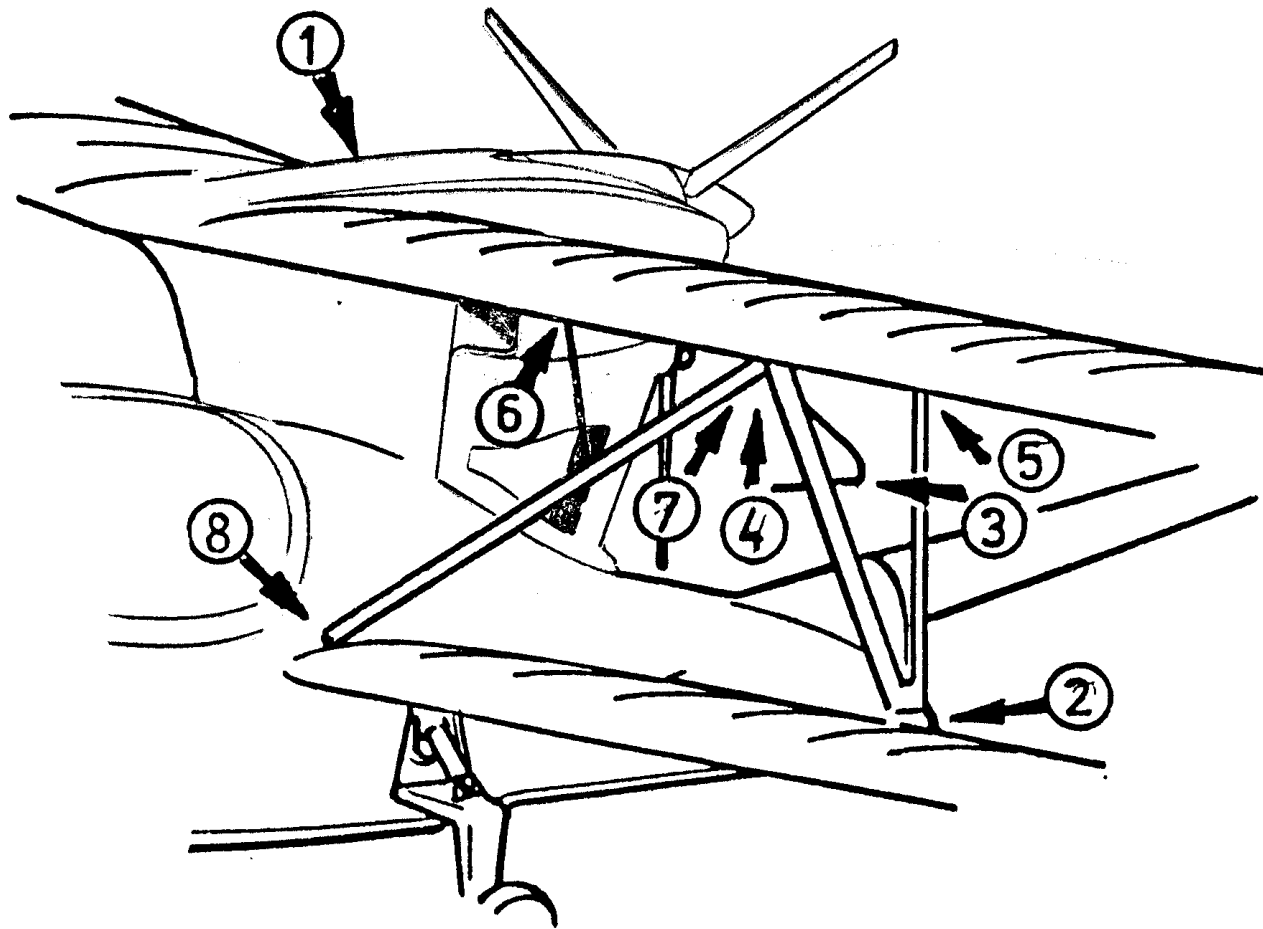

Fig.6 – Wings Disassemble Sequence
- 1.7 - Move the stabilizer back until it becomes free from its forward support (6)
2. Wings (fig. 6)